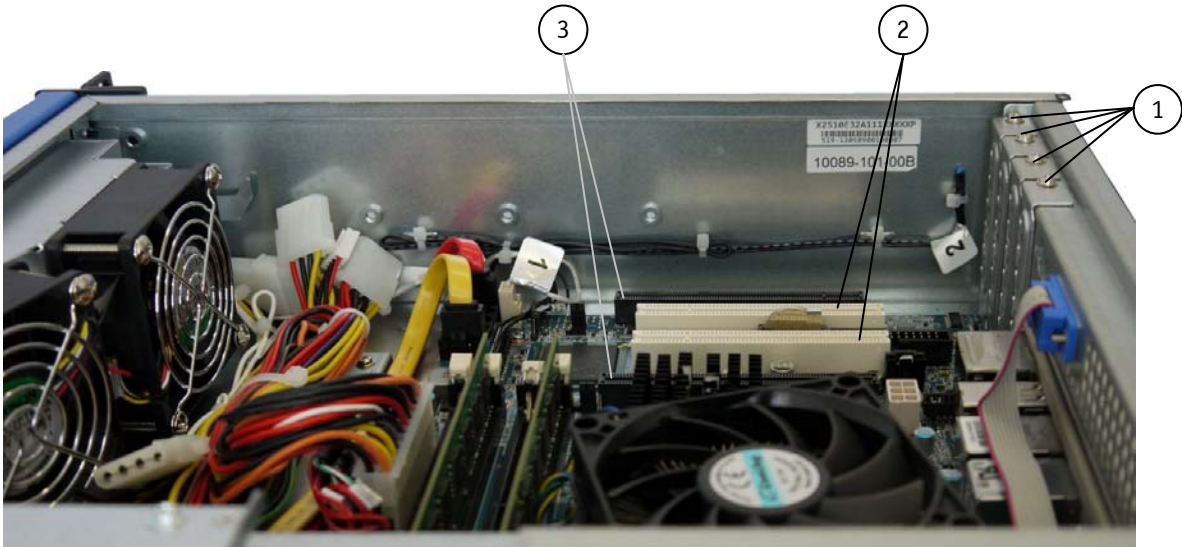

Fig. 29: Detail KISS 2U Short V2 with KTQ45/Flex (system configuration for low profile cards)
2. Unscrew the fastening screws of the slot bracket or card slot bracket (Fig. 29, pos. 1). Retain the screws for later use.